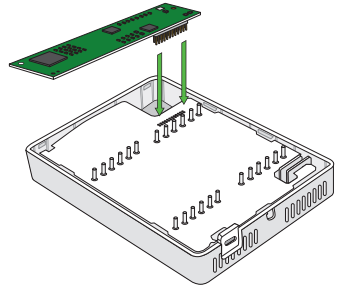

Figure 2
4. Align the connector pins on the Wi-Fi Module with the holes on the motherboard (Figure 2).